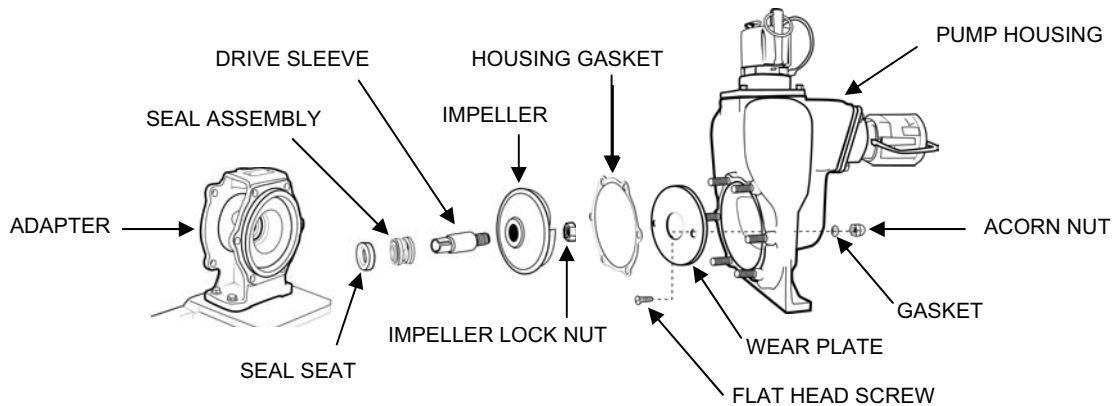

Figure 9. P7/P8 Pump Assembly.
3. Assemble the pump with replacement parts as follows (see Figure 9):